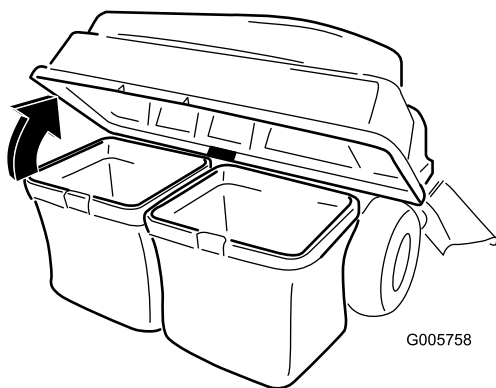

Figure 21
3. Open (raise) the bagger top (Figure 21).